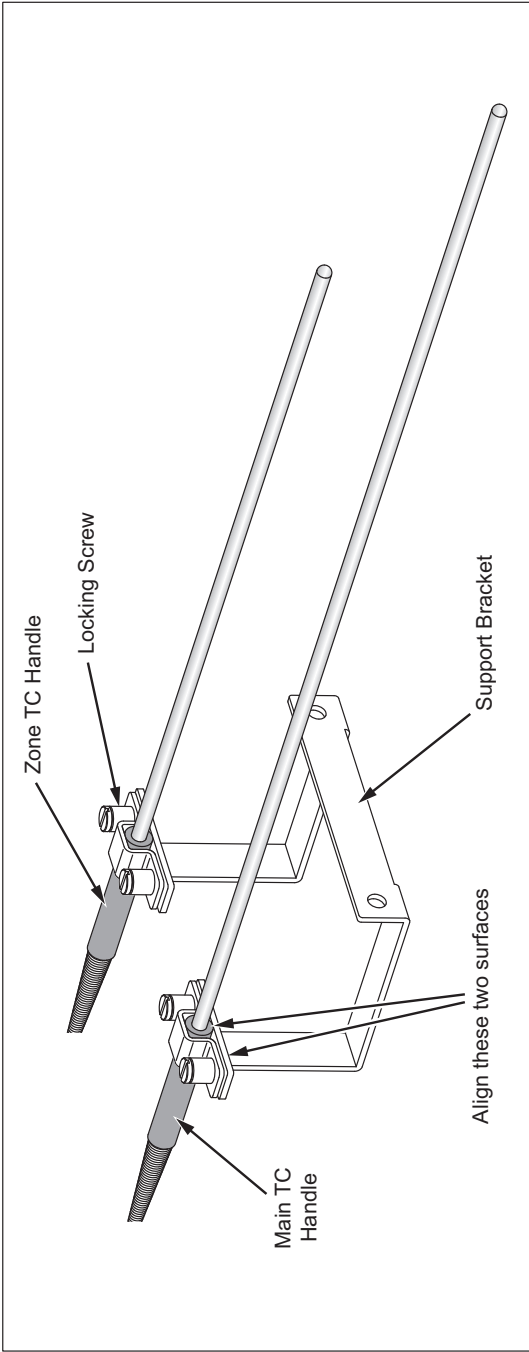

Figure 13. Probe Installation B
- Align the end surface of the thermocouple handle with the front edge of the bracket. See Figures 13 and 12.